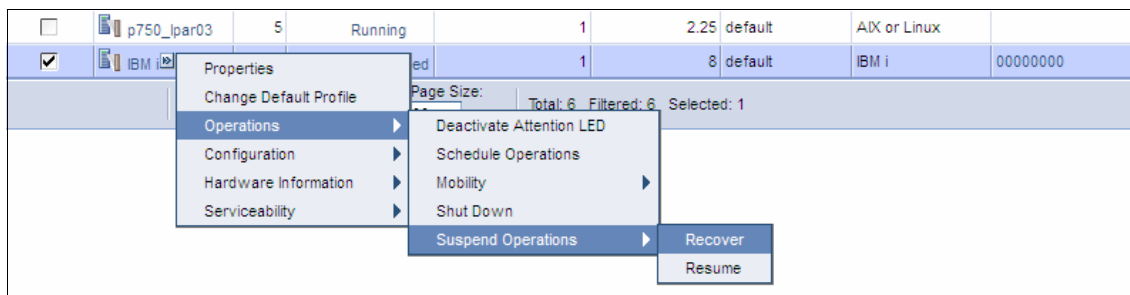

Figure 13-20 Recovering a suspended partition
2. Click **Operations** → **Suspend Operations** → **Recover** as shown in Figure 13-20.